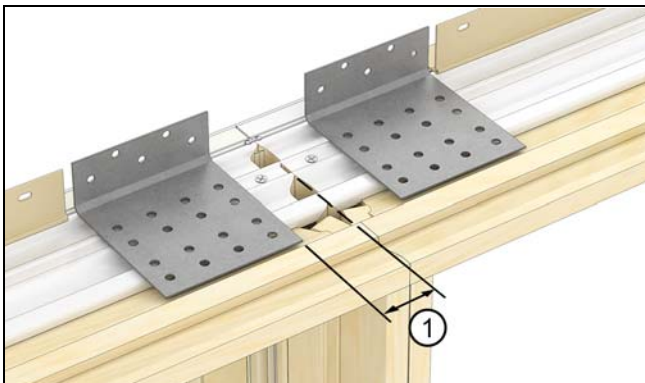

Figure 3
1. Place mull clips 1 1/2" on either side of each mull point. Use the holes in the clips to mark the fastener locations. See Figure 3.